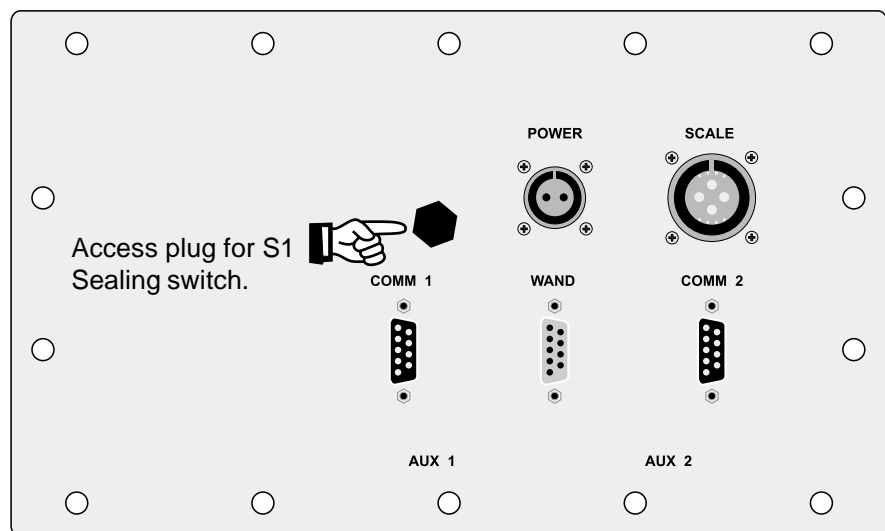

Figure 5
- ❑ Connect any other peripheral equipment you will be using to the back of the SimulCast™ WI-130. See Figure 5.